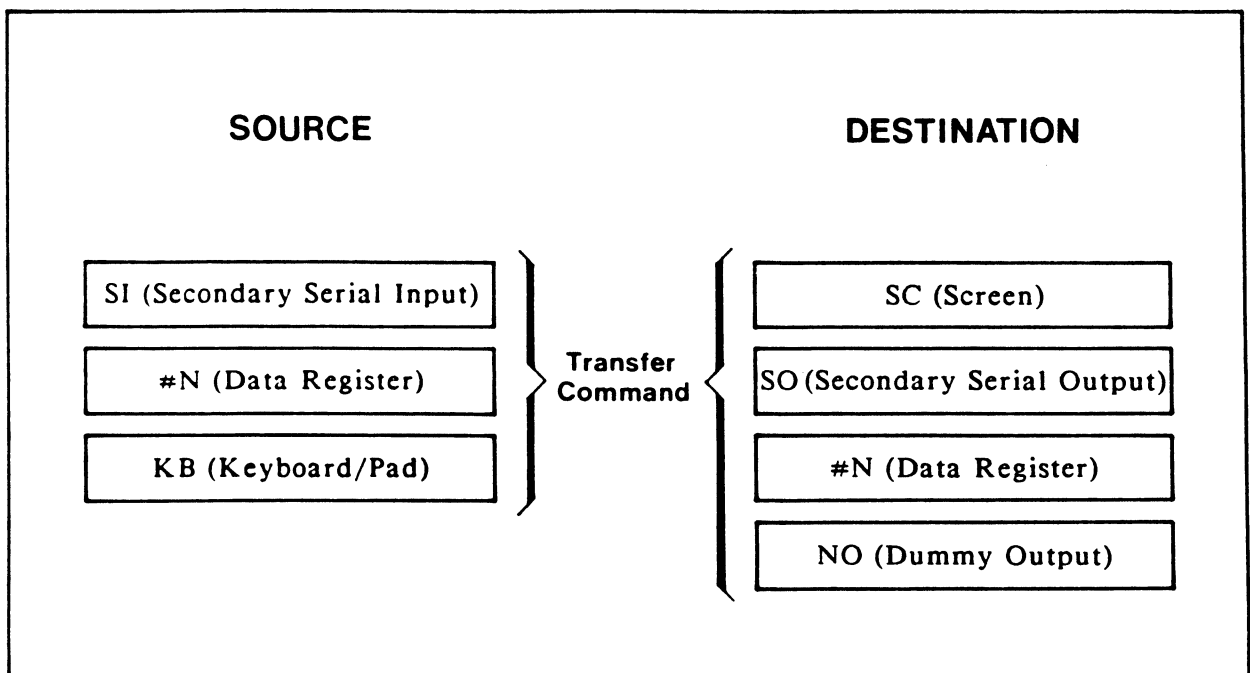

Figure 4-1 The Block Command Transfer (TR)
The block command Transfer (TR) can transfer data from a variety of sources to a variety of destinations. Figure 4-1 shows the capabilities of the transfer command.